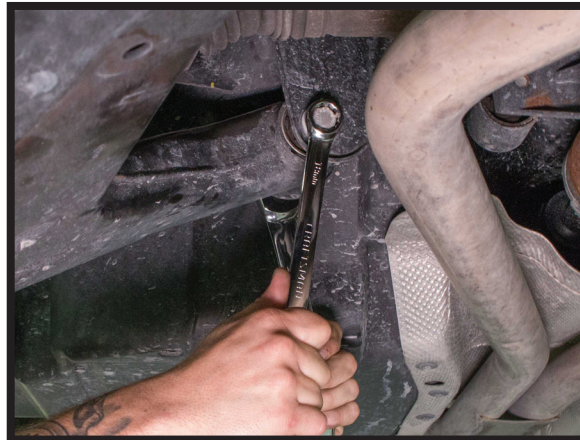

FIGURE 60
10. TIGHTEN THE INNER CONTROL ARM BOLTS. (FIGURE 60)